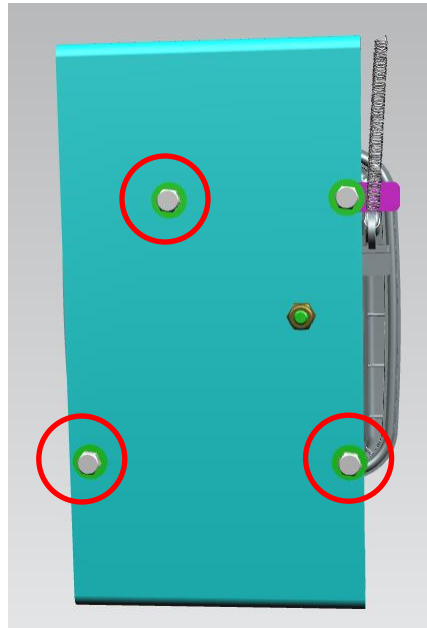

Figure 2: First Three Locations to Fasten
7. Install the assembled lock handles back into the rear side service and the wheelchair lift doors. Use three new washers (PN 19-2-23), three new screws (PN 19-1-386) to fasten them in place in the three holes shown in Figure 2. Apply 1-2 drops of Loctite 243 (PN 23-02-0088) to the threads of the hardware and torque to 9-11 Ft/Lbs. Use a paint marker and apply a torque stripe.